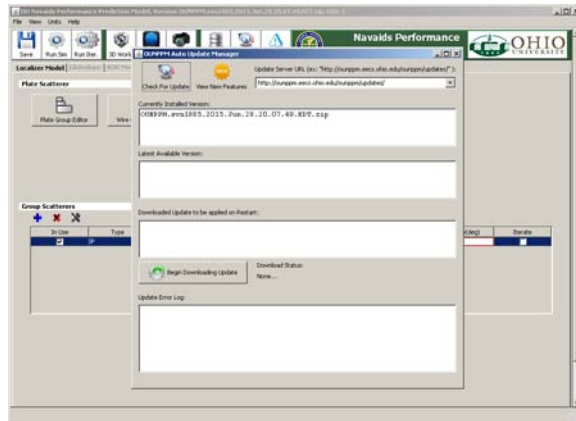

Figure 98: Clicking on the *Update* button from the main tool bar at the top of OUNPPM will open the Updater Window.
1. Click on the *Update* button from the main tool bar at the top of OUNPPM. This will open the Updater Window as shown in Fig.98.